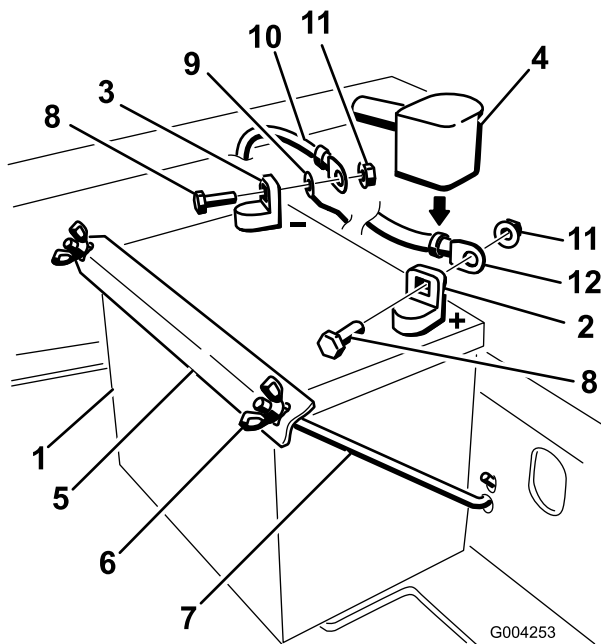

Figure 36
4. First disconnect the negative battery cable and ground wire from the negative (-) battery terminal (Figure 36).
5. Slide the red terminal boot off the positive (red) battery terminal. Then remove the positive (red) battery cable (Figure 36).
6. Remove both wing nuts (1/4 inch) securing the battery clamp (Figure 36).
1. Position battery in the tray with the terminal posts toward the engine (Figure 36).
4. Secure the cables with 2 bolts (1/4 x 3/4 inch), 2 washers (1/4 inch), and 2 locknuts (1/4 inch) (Figure 36).
6. Secure battery with J-bolts, hold down clamp and 2 washers (1/4 inch), and 2 wing nuts (1/4 inch) (Figure 36).